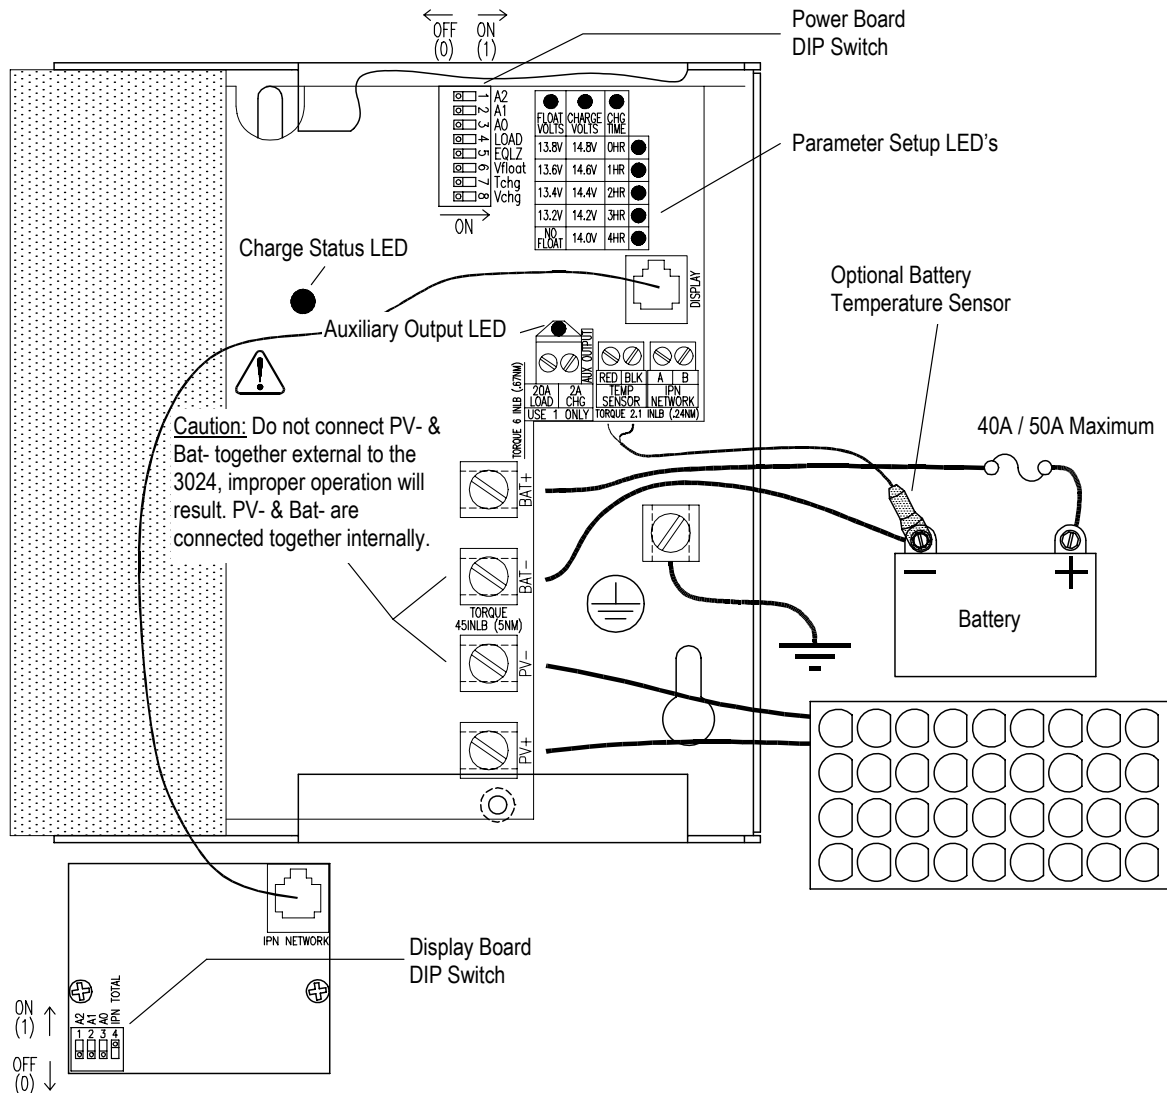

FIGURE 3
➤ **WARNING:** Read, understand and follow the Important Safety Instructions in the beginning of this manual before proceeding. This unit must be installed and wired in accordance with National Electrical Code, ANSI/NFPA 70. Over current protection must be provided externally. To reduce the risk of fire, connect to a circuit provided with 40A maximum branch-circuit over current protection (50A with 12V battery and 12V PV modules) in accordance with National Electrical Code, ANSI/NFPA 70. Do not connect a PV array capable of delivering greater than 24A of short circuit current I_{sc} at STC (32A with 12V battery and 12V PV modules). Do not connect BAT- and PV- together external to the unit. The unit is not provided with a GFDI (ground-fault detector/interrupter) device and must be used with an external GFDI device as required by Article 690 of NEC for the installation location. To reduce risk of electric shock, remove all sources of power before installing or servicing. Figures 3, 4 and 5 show generalized connections only and are not intended to show all wiring, circuit protection and safety requirements for a photovoltaic electrical system.
➤ Setup parameters are divided into two categories, Basic and Advanced. Basic parameters can be configured with the 3024 alone within limited steps and ranges as shown in Figure 3. Advanced parameters require the IPN-ProRemote to access. The IPN-ProRemote also allows basic settings to be configured in smaller steps and over wider ranges. All setup parameters are retained if power is lost, or the IPN-ProRemote is used as a setup tool only and removed.
2. Turn ALL 8 power board DIP switches shown in Figure 3 ON.
Acceptance Charge Voltage, Float Charge Voltage and Charge Time setpoints can be viewed or changed using the parameter setup LED's and DIP switch shown in Figure 3. Operate only one switch at a time. To view the present setting turn the appropriate DIP switch ON momentarily (V_{CHG} #8, V_{FLOT} #6 or T_{CHG} #7). For a 24V battery the actual voltage setpoints are doubled.
The auxiliary output can serve one of three functions; a 2A auxiliary battery charger, a 20A load controller with Low Voltage Disconnect (LVD), or a 20A variable Dusk-to-Dawn lighting load controller. The Charge/Load function is selected by DIP switch #4 shown in Figure 3. The IPN-ProRemote is required to adjust LVD thresholds or enable Dusk-to-Dawn lighting control. Auxiliary outputs in a multi-controller system will function normally, but only the auxiliary output in the master can be configured or monitored using the IPN-ProRemote. The auxiliary output "Load" LED will illuminate whenever the auxiliary output is ON.